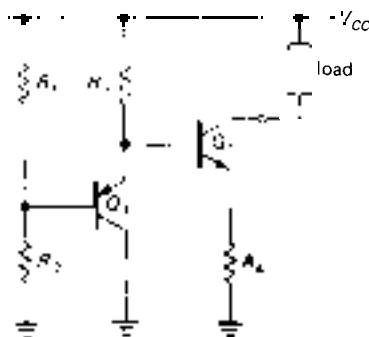

Figure 2.23. One method of temperature-compensating a current source.
2.  $h_{FE}$  and also  $\beta$  depend on temperature. This causes drifts in output current with changes in ambient temperature; in addition, the transistor junction temperature varies as the load voltage is changed (because of variation in transistor dissipation), resulting in departure from ideal current source behavior. The change of  $\beta$  with ambient temperature can be compensated with a circuit like that shown in Figure 2.23, in which  $Q_2$ 's base-emitter drop is compensated by the drop in emitter follower  $Q_1$ , with similar temperature dependence.  $R_3$ , incidentally, is a